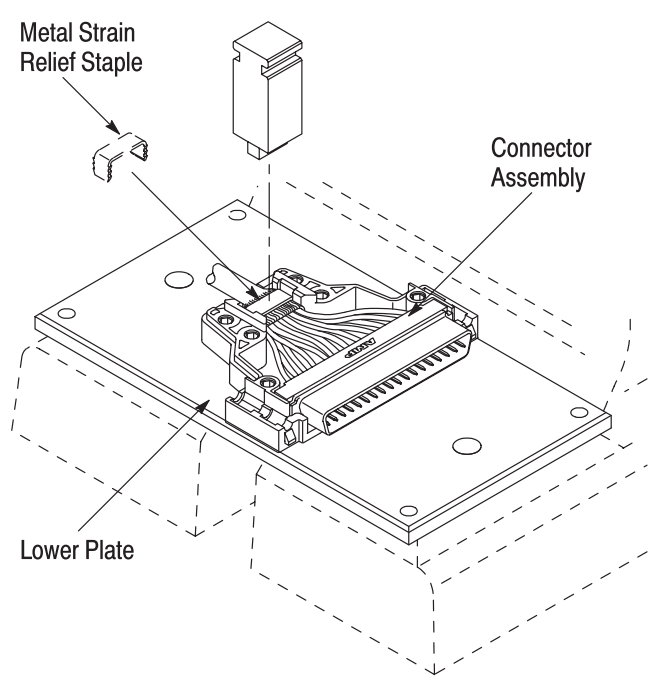

Figure 6
5. Place the connector assembly on the lower plate as shown in Figure 6.